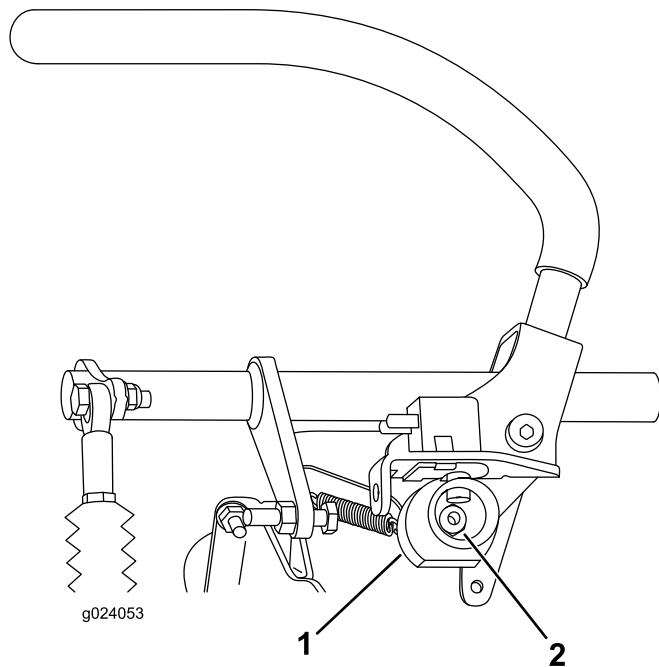

**Figure 69**
3. Push the right motion-control lever down out of the neutral-locked position (Figure 69).
4. Check if the right motion-control lever aligns horizontally with the left motion-control lever (Figure 69).